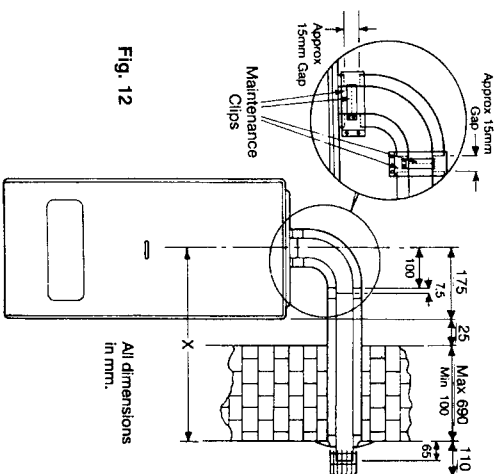
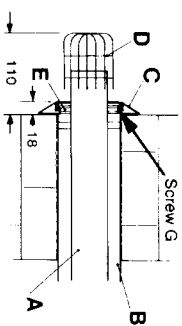

Fig. 12
Fig. 14
5.5.1 Refer to figures 12 - 15.
Hang the boiler on the bracket. Adjust the boiler sideways to its correct position. Locate the small maintenance clip on to the flue elbow (fig 12) and assemble onto the flue outlet on the top of the boiler. Twist the flue bend to the outlet direction required, and tighten the maintenance clip to secure the flue bend in place. Carefully level across to check that the hole through the wall is at the same level as the flue bend.
5.5.4 Measure carefully from the actual face of the outside wall to the centre of the flue bend. (Dimension X on Figs 12 & 13.)
NOTE: The two tubes must be separated by removing screw G (fig 14) before cutting. The outer air tube should also be shortened by the same amount to allow a gap for easy working (see inset on fig 12)
- 5.5.9** Ensure inner and outer terminal tubes are firmly fitted together with screw G (fig 14). Push the terminal tubes through the wall until the face of the outer tube protrudes 18mm from the face of the wall (fig 14). The terminal grill (D) will then protrude 110mm from the wall.) face.
- 5.5.16** Check also that the outer end of the flue projects as indicated in fig 14.
- 5.5.19** Seal the peripheral gap around the outer tube with cement or mastic and slip the cosmetic flexible plastic collar (fig 14) (item C) into groove on the pipe.
- 5.5.28** Referring to fig 12 assemble a small maintenance clip on the outlet of the boiler flue bend. Push the inner flue tube into clip and tighten clip screws.
- 5.5.30** Referring to fig 12 fit the large maintenance clip into position and tighten clip screws.
- 5.5.34** NOTE: The two tubes must be separated by removing screw G fig 14 before cutting.
- 5.5.41** Referring to fig 12 fit the large maintenance clip into position and secure clip screws. Check and adjust if necessary so that the outer flue tube protrudes 18mm from the outside face of the wall.